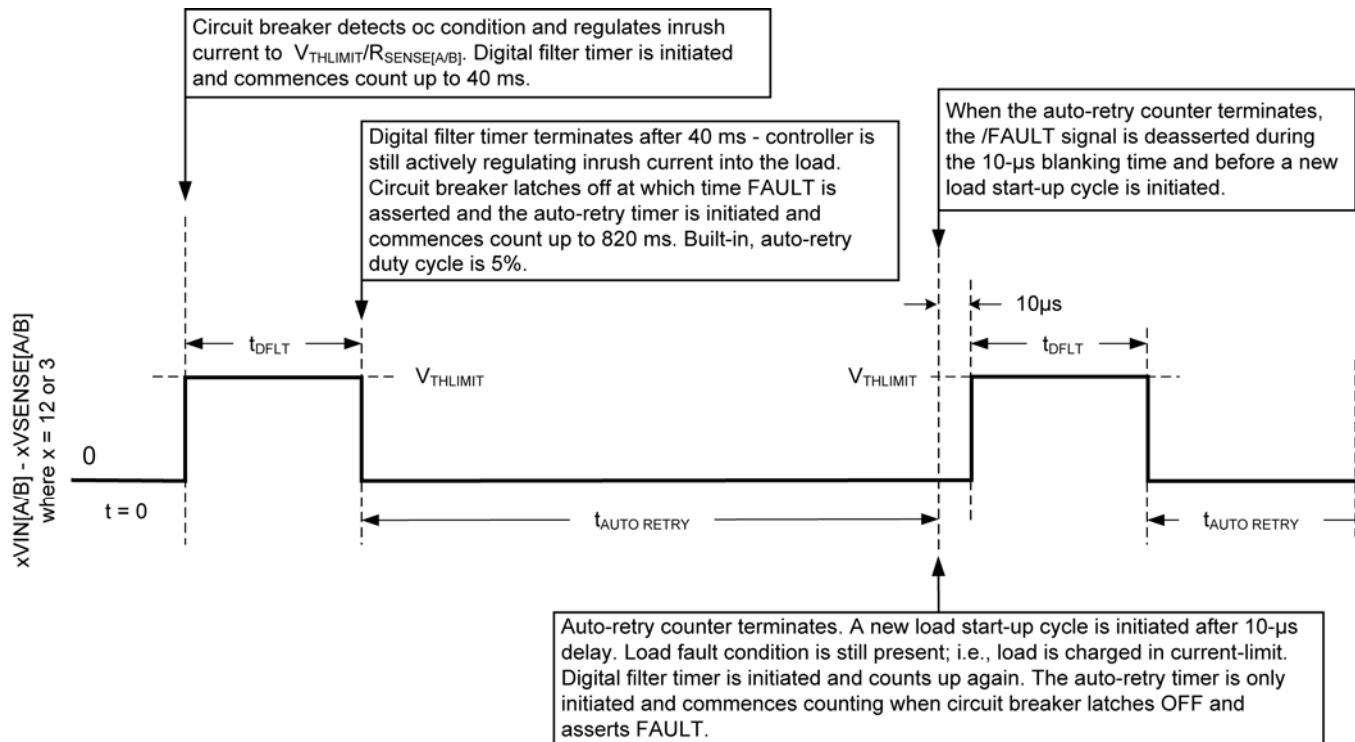

Figure 7. MIC2341R Auto-Retry Timing Diagram and Operation in Current-limit
In very cost-sensitive applications, the system design engineer can save the cost of the (2) external CFILTER[A/B] capacitors by using only the digital filter and/or the auto-retry delay counters. This mode is automatically invoked by connecting the MIC2341 or the MIC2341R's CFILTER[A/B] pins directly to AGND. In this configuration, the primary OC detectors' response time  $t_{\text{FLT}}$  is equal to  $t_{\text{DFLT}}$  (or 40ms as above) In Figure 7,